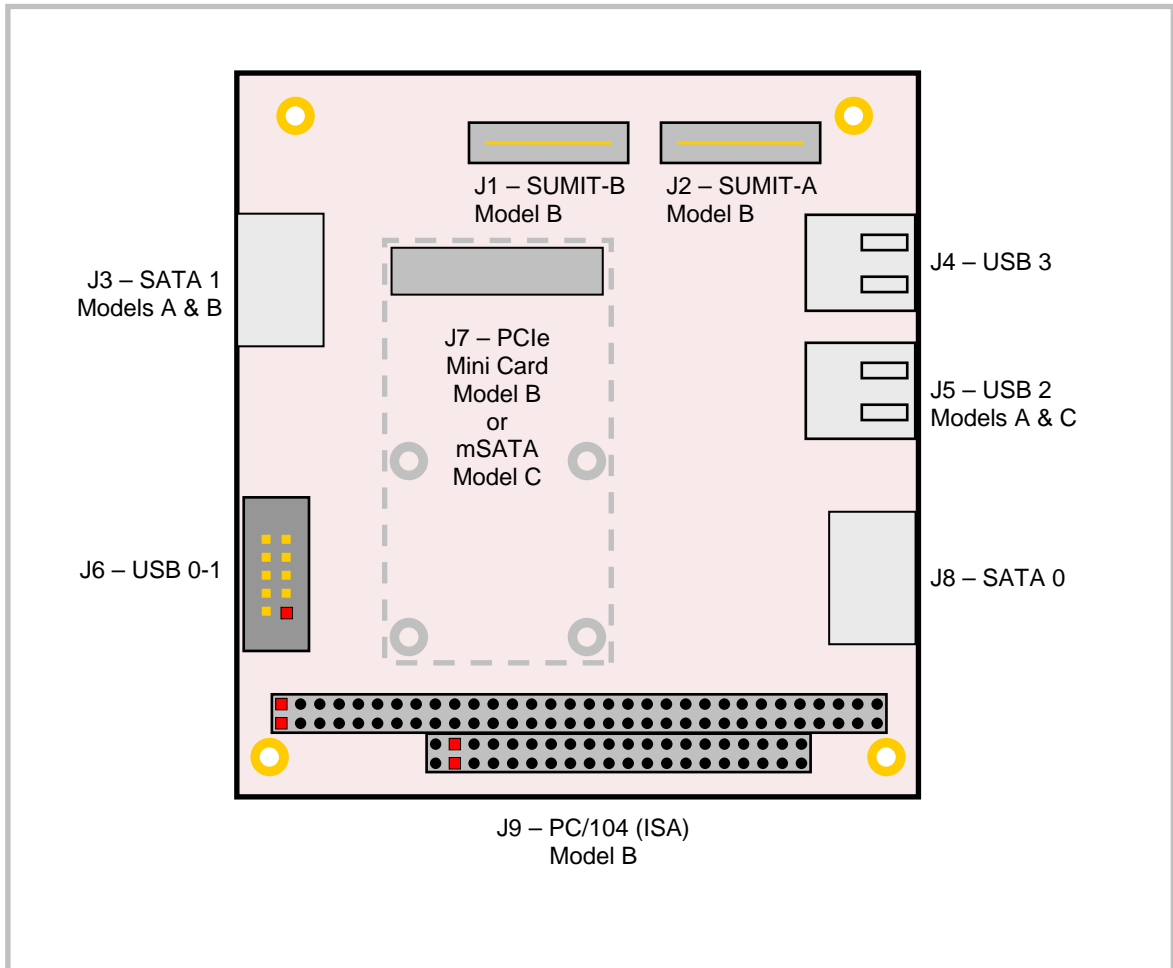

Figure 4. VL-EPMS-M1 Connectors – Top Side
1. The PCB origin is the center of the mounting hole located in the lower left, as oriented in Figure 4.